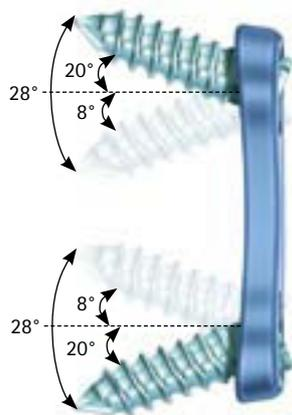

Fig. 13a
### Angulation (Fig. 13a and 13b)
- The Quintex® hybrid plate has a maximum angulation of up to +20°/-8° in the distal holes (Fig. 13a) and +15°/-15° in the medial holes of the multilevel plate.